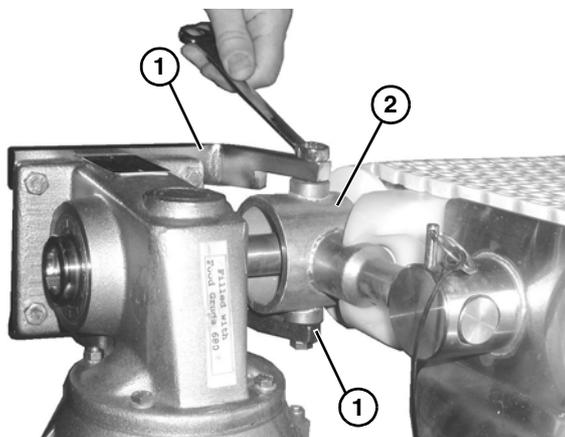

Figure 12
- Attach the bent bars (**Figure 12, item 1**) to the motor mounting bracket (**Figure 12, item 2**).